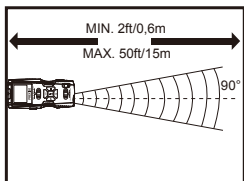
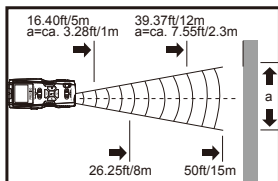

Fig.2
Fig.3
⚠ Note: Measurements start at the measurement point **A**! The ultrasonic measurement range lies between 2' (0.6m) and 50' (15m), please see Fig. 2. Should the measurement lie outside the measurement limit range, "Err" or an illogical number appear on the display.
b. Hold the instrument upright towards the wall to which you wish to measure the distance. It's better to hold the ultrasound sender/receiver at a right-angle to the wall.(see Fig. 2).
d. The further you are from the wall, the wider is the area that the Instrument must measure by ultrasound (see Fig. 3). Therefore, please take care that the Instrument is always directed at a right angle towards a level surface (see Fig. 2 and 4). Ensure that there are no objects positioned within the measurement area.